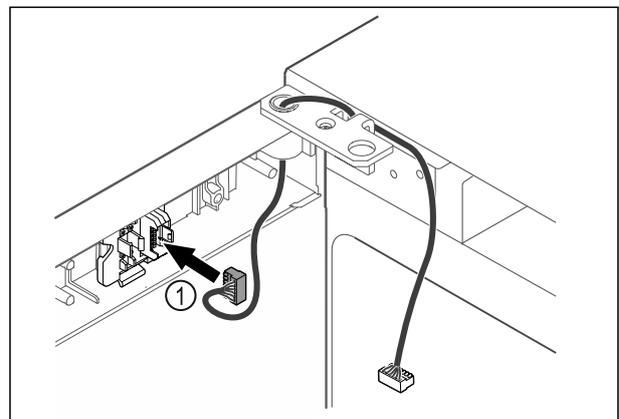

Fig. 38
- ▶ Put the plug Fig. 38 (1) in the plug holder.